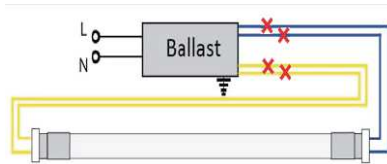

Figure 3
STEP 4: Disconnect connections to existing ballast as shown in Figure 3. Cut as far away from the lamp holders to allow for longer lengths of wire at both lamp holders. Properly discard ballast or leave it in the fixture with the wire capped off.